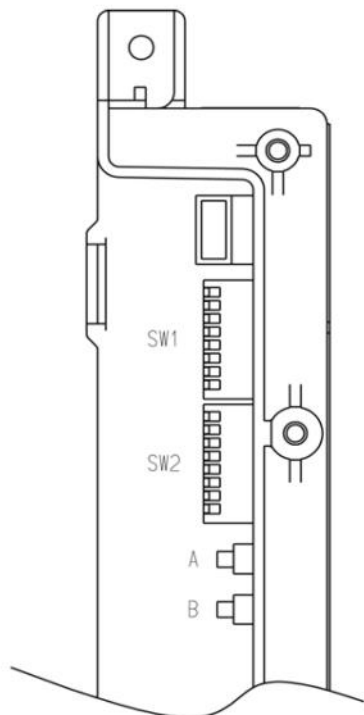

Fig. 1
4. Check gas type using the dataplate on the side of the casing and confirm the dip switches (Fig. 1) are in the correct position for the type of gas (Nat. or LPG)* you are using (see page 38).
4. Check gas type dip switch no.1 of SW2 is in the correct position for the type of gas (Nat. or LPG)* you are using. See Fig. 1